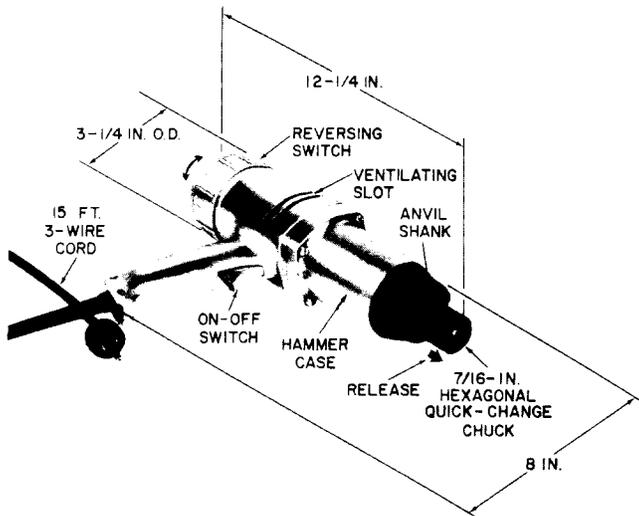
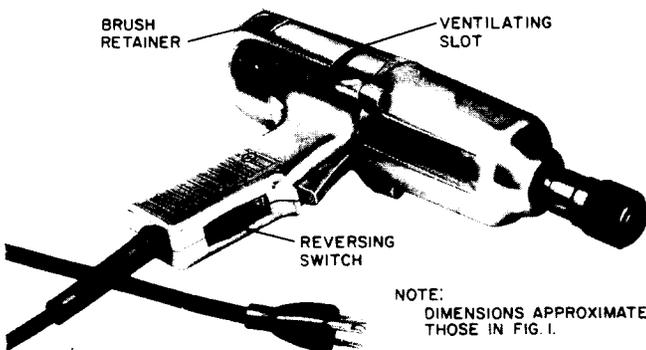

Fig. 1—B Impact Wrench With End Cap Reversing Switch
Fig. 2—B Impact Wrench With Reversing Switch in Handle
**B IMPACT WRENCH (MD)**
2.01 The B (MD) impact wrench (Fig. 1 and 2) operates on 115 volts ac or dc, develops about 150 foot/pounds of torque, and is reversible. The wrench is a 1/2-inch capacity tool, equipped with a 7/16-inch hexagonal quick-change chuck, pistol-grip handle, nonlocking on-off trigger switch, reversing switch, 15-foot 3-wire cord, and 3-prong plug. One wire connects the grounding prong of the plug to the case of the wrench.
3.03 The life of the motor of these tools depends upon proper lubrication and ventilation. Be sure the ventilating slots (Fig. 1, 2, and 3) are clean.
4.06 Before using the wrench, place a few drops of machine oil around the shank of the anvil (Fig. 1) where it emerges from the bushing at the front of the hammer case. Hold the wrench with the chuck uppermost.
- 7.04** When changing the direction of rotation, make sure that the reverse cap (Fig. 1) is turned as far as it will go or reversing switch (Fig. 2 and 3) is fully operated.
- 7.12** ♦Always check the shank to make sure it is not bent out of line with the B socket (Fig. 2). The B socket should be checked for excessive wear. If the B socket shows excessive wear, replace the B socket.♦